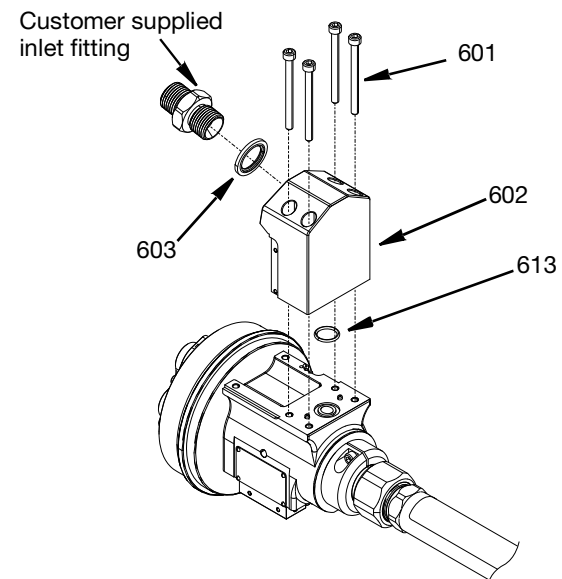

FIG. 14
1. Remove customer supplied inlet fitting and 1/2 in. BSPW washer seal (603).
2. Take off the SST single inlet adapter (602) by removing the four M5 SHCS screws (601) with a hex key wrench.
3. Discard packing Viton O-ring (613) and replace with a new one when reassembling. See FIG. 14.